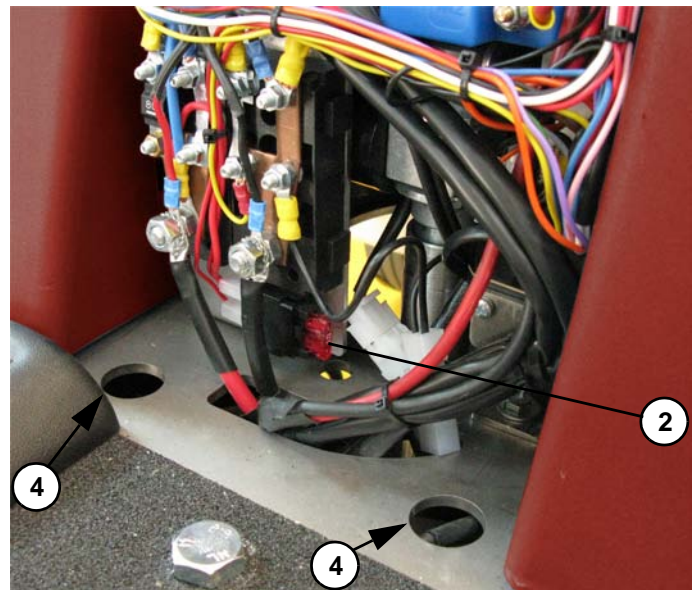

Figure 5-15
4. Raise the cover (5, **Figure 5-15**), remove the panel (1) by seizing it on the hold (3) and raising it to disengage it from the retainers (4). Close the cover (5).
- 10A Fuse for protecting auxiliary services (2, **Figure 5-15**)
6. Place the panel into its seat (1, **Figure 5-15**) and engage the retainers (4).